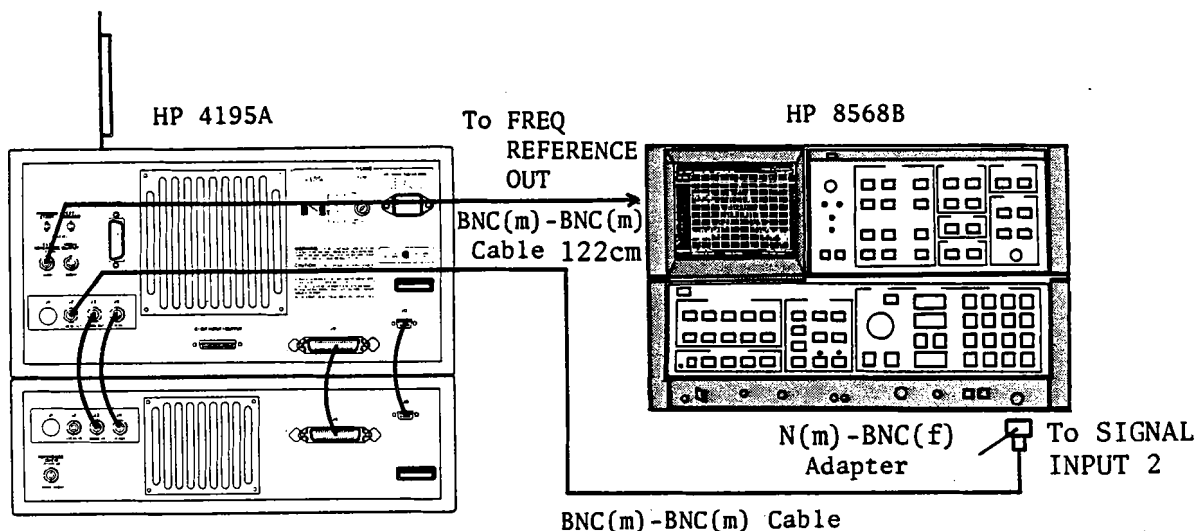

Figure 3-38. API Adjustments Setup
2. Connect the equipment as shown in Figure 3-38.